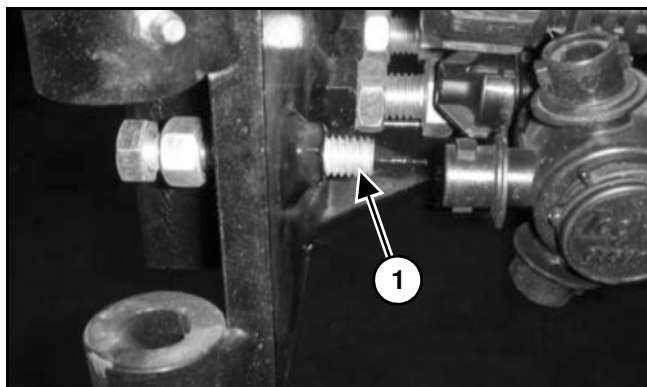

Figure 20
[Figure 20] - At the end of the inner boom structure, an additional section of boom can be added. A boom stop bolt (1) may interfere with the valve assembly installation.